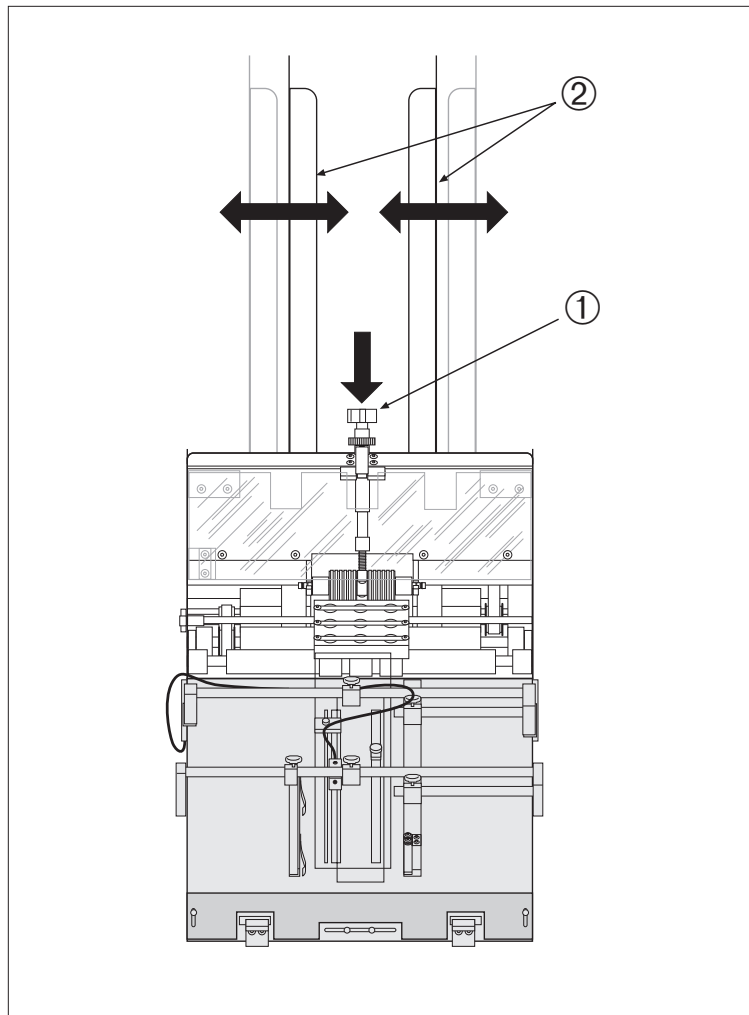

Figure 8. Individual Side Guide Offset
To adjust each side guide for proper *offset* horizontal spacing (Figure 8),
1. Push down on the side guides spring-loaded adjustment knob to disengage the guides from the gear mechanism (Figure 8, ①).
2. Grasp whichever side you wish to offset first and move into position (Figure 8, ②).